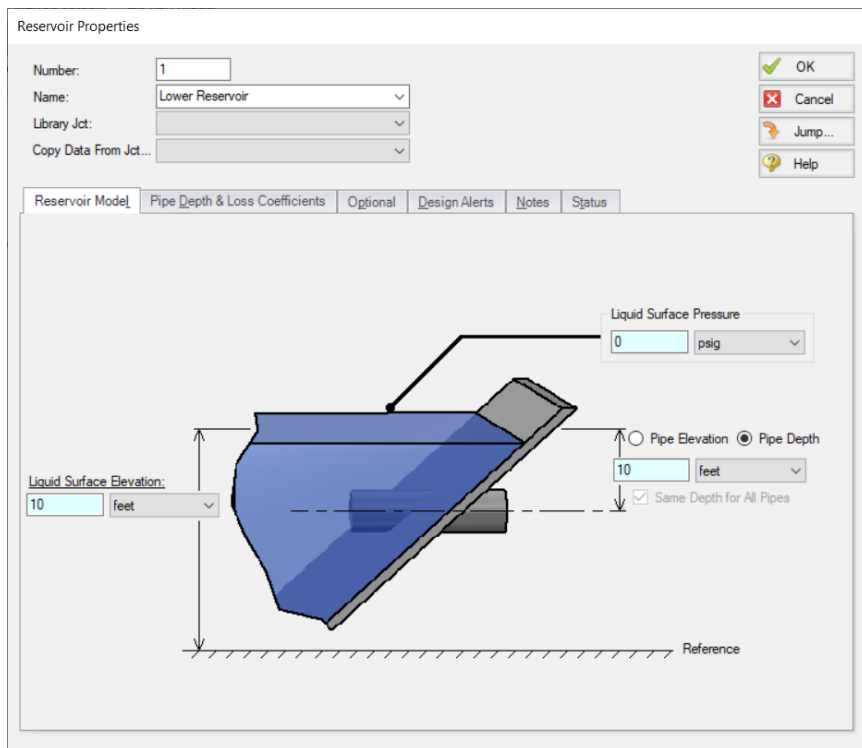

Figure 2.15 Properties window for the J1 Reservoir
- **To define the first reservoir**, open the J1 Reservoir Properties window (Figure 2.15) by double-clicking on the J1 icon. The pipe table should show you that Pipe 1 connects to this reservoir (click the Pipe Depth & Loss Coefficients tab to display the pipe table).
You can give the junction a name, if desired, by entering it in the Name field at the top of the window. By default, the junction's name indicates the junction type, and will be displayed in the Model Data and Output. It can optionally be displayed on the Workspace via the use of Workspace Layers which will be discussed later in this chapter. Name this reservoir Lower Reservoir, as shown in Figure 2.15.
Separate tabs in the Properties windows contain the junction information and input fields. Click any tab to bring its information forward. Figure 2.15 shows a Reservoir junction Properties window.